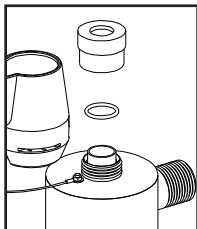

FIGURE 3C
5. Clean the sleeve as outlined in above, or replace with a new sleeve. Reinstall the quartz sleeve in the reverse order. The Cobalt reactor is designed for easy installation of the quartz sleeve by incorporating a unique sleeve centering guide. To install the sleeve, carefully insert the sleeve into the reactor chamber (do not drop) and push the sleeve until it firmly seats in the end of the reactor centered in the sleeve centering guides (Figure 3c). Install a silicone release grease o-ring (Part number 410867) onto the sleeve until it is positioned against the chamfered seat (Figure 3d).